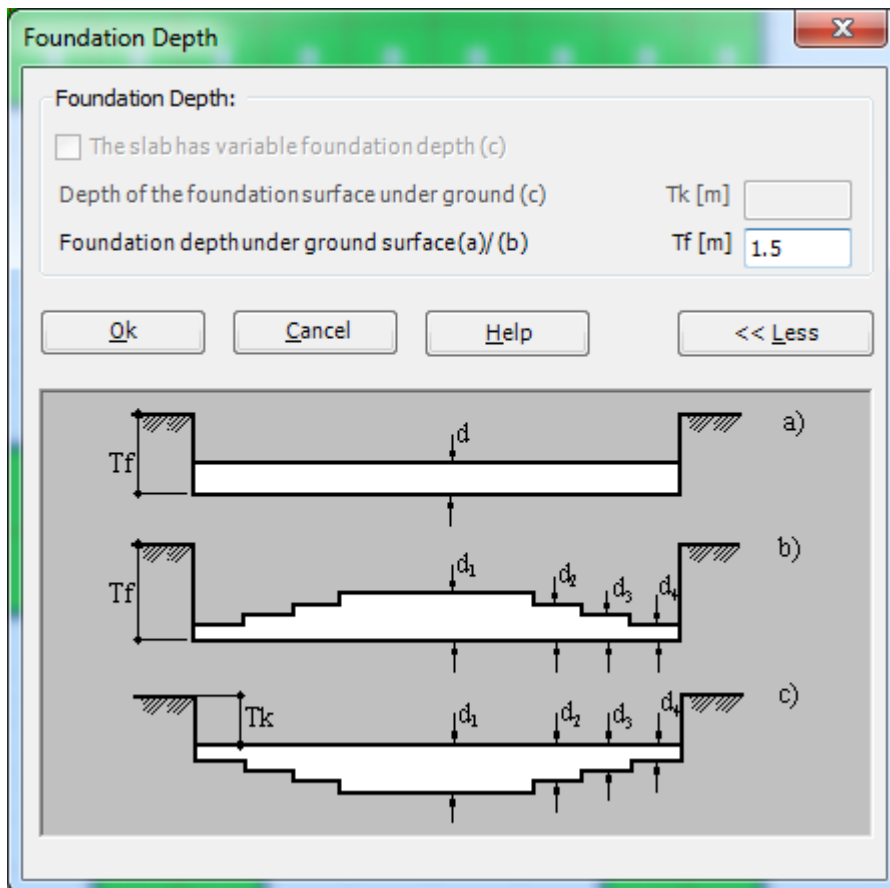

Figure 9.25 "Foundation Depth" dialog box
- The following dialog box in Figure 9.25 appears